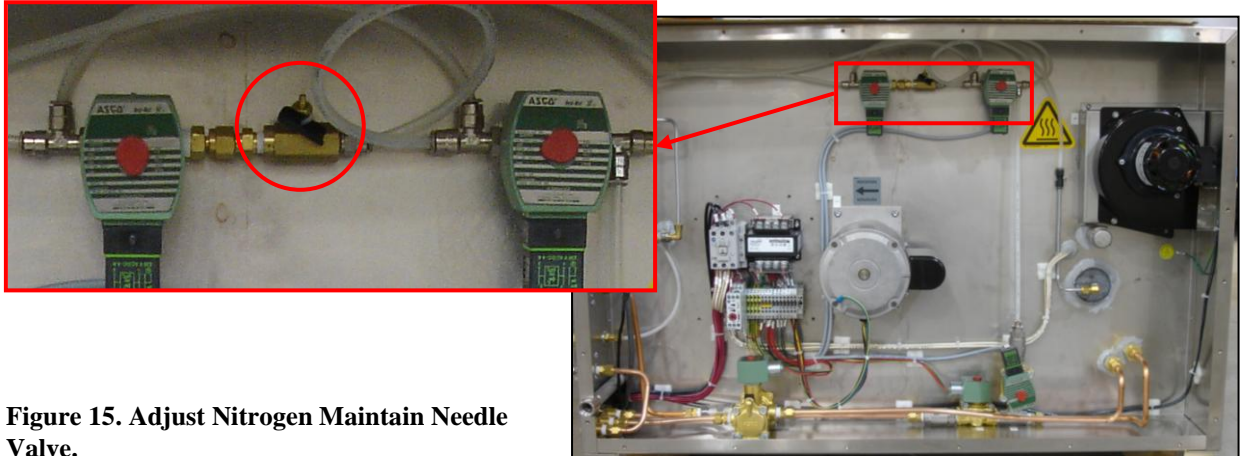

Figure 15. Adjust Nitrogen Maintain Needle Valve.
- b. Adjust the Nitrogen Maintain needle valve at rear of oven (Figure 15). Leave the maintain valve energized as long as the nitrogen level is maintained (Table 6).